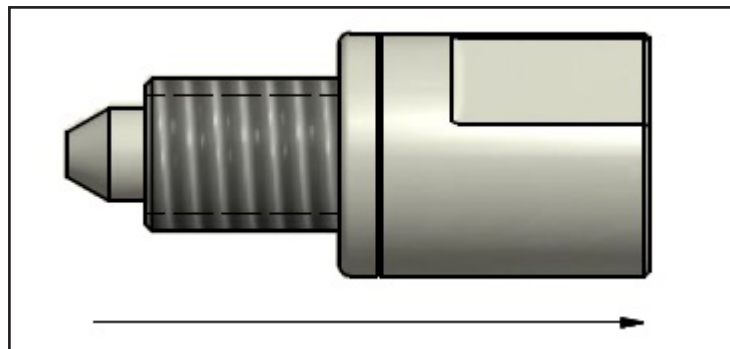

Fig. 1.9
4. Flush the filter with a squirt from an alcohol or acetone bottle from the male threaded end. (See Fig. 1.9)